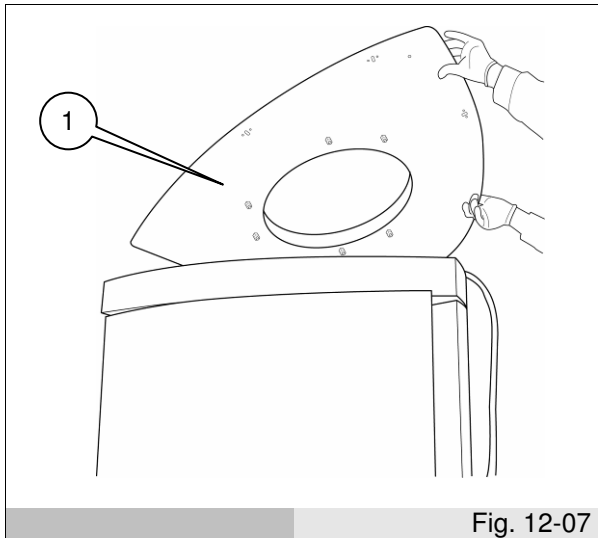

Fig. 12-07
- Insert the roof's sheet metal cover (ref. 1 fig. 12-07) and attach it to the roof with the relative retainer screws.